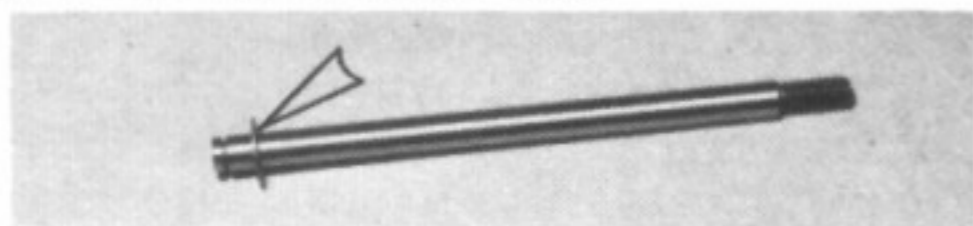

Fig. 118
□ **Fig. 118** Slip on one "E" clip.